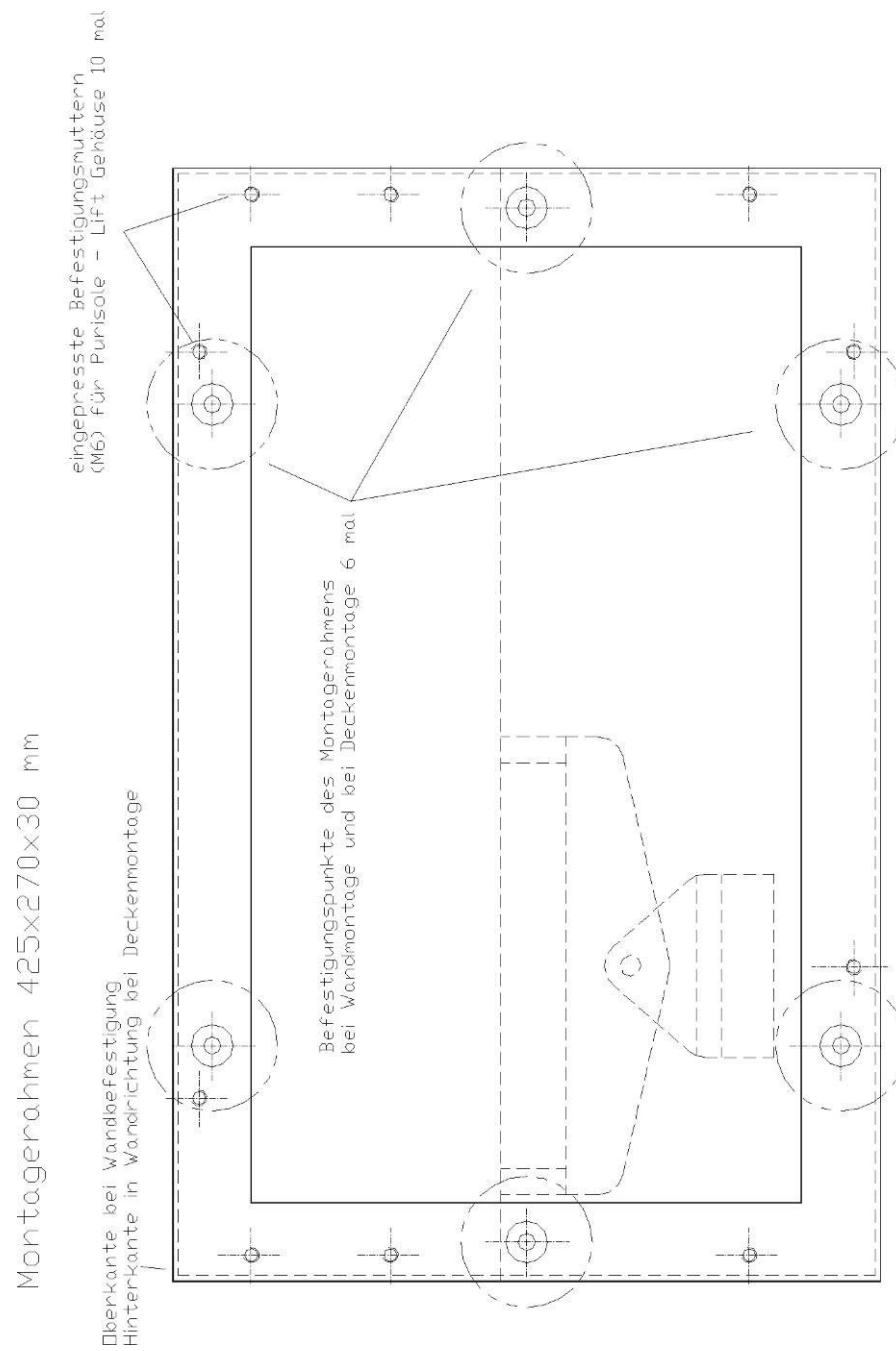

Figure 5.3: Installation frame: 425 x 270 x 30 mm
4. Note orientation of frame (see Figure 5.3 Installation Frame).